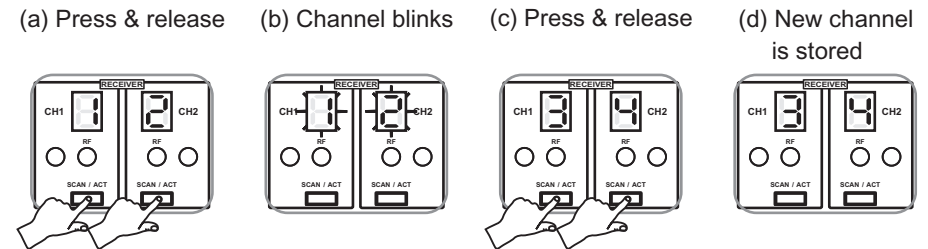

Fig. 3
- (1) To Scan for a Clear Receiver Channel: Press & hold the SCAN/ACT button ⑭ until current channel blinks. Release the button, blinks will last for 10 times and stop on the current channel. During blinking, press & release the SCAN/ACT button again and the receiver scans and sets at a clear channel automatically. Then the new channel will be stored, Fig. 3.